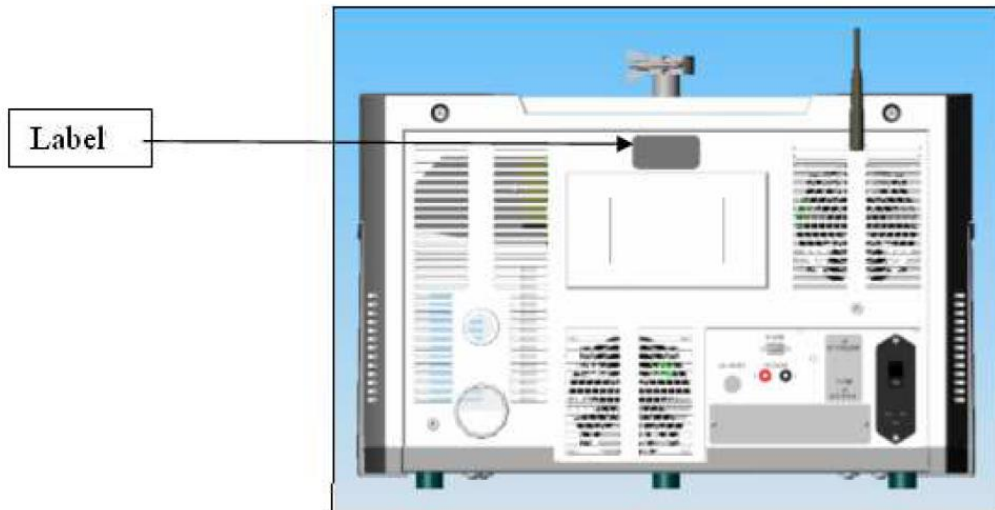

Figure 9: Label
20) Attach the label to the rear cover in location shown (Figure 9: Label).